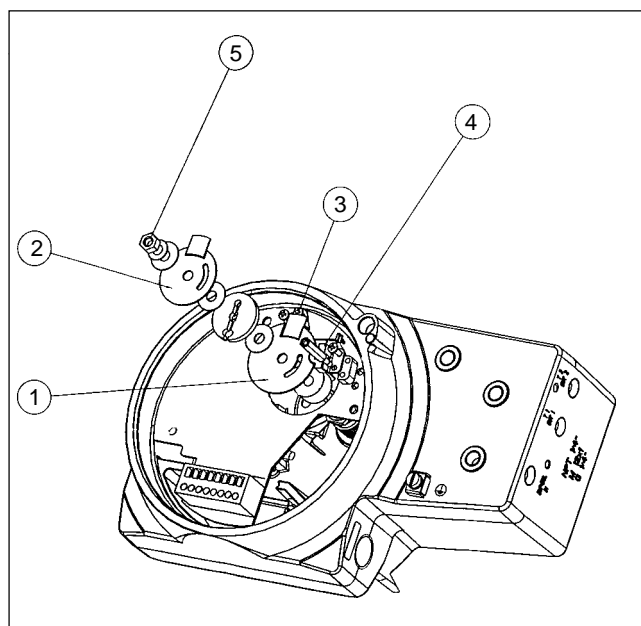

Fig. 13 Elements for adjusting the alarm limits of TZID Ex d
To adjust the alarm limits of TZID Ex d, turn the disks (item 1 and item 2 in Fig. 13) on the shaft for position feedback.